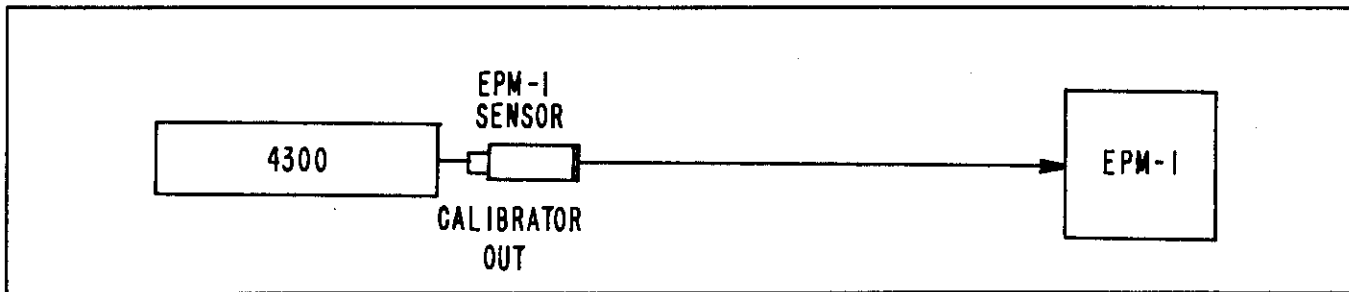

Figure 6-205. 0 dBm Measurement
5. **0 dBm ADJUSTMENT.** Press SHIFT until the unit scrolls to the 0 dBm range. Then connect the equipment as shown in Figure 6-205. Note: the EPM-1 is sensitive to overloads above about 1 dBm; be sure the calibrator is set correctly before connecting. Now press the 6 keys as listed above to adjust the calibrator to exactly 0 dBm. Then press ENTER once, and ESCAPE.